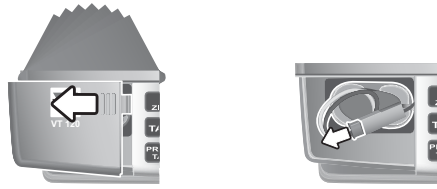

Figure 2-8. Open Battery Cover
1. Slide the battery cover to the left to open it as shown in Figure 2-8.